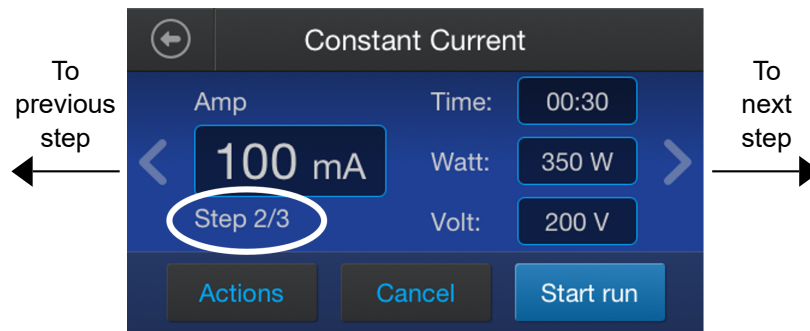

Figure 11 Method step number location
The step number will be displayed below the constant parameter value (see Figure 11). To view adjacent steps when viewing the constant parameter screen, touch the left arrow (previous step) or right arrow (next step).
1. Navigate to the step to be deleted using the **left** and **right** arrows on the **Constant parameter** screen (see Figure 11).